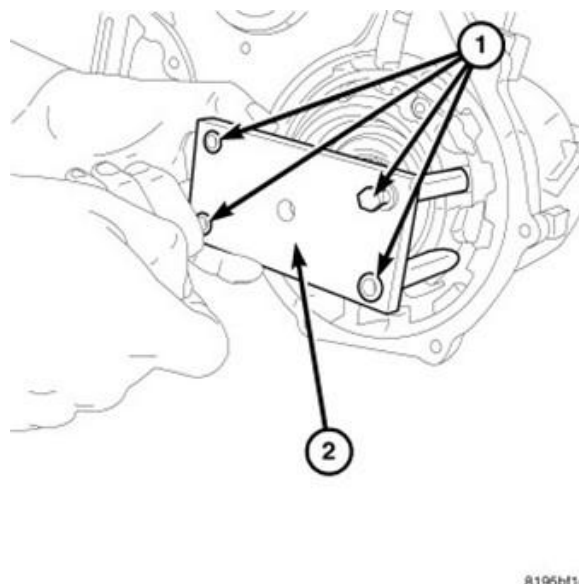

Figure 27 – Puller Adapter
39. Install Puller Adapter 9908 (2) to the compounder bearing retainer (Figure 27).
71. Remove the Puller Adapter 9908 (2) from the compounder bearing retainer (Figure 27).